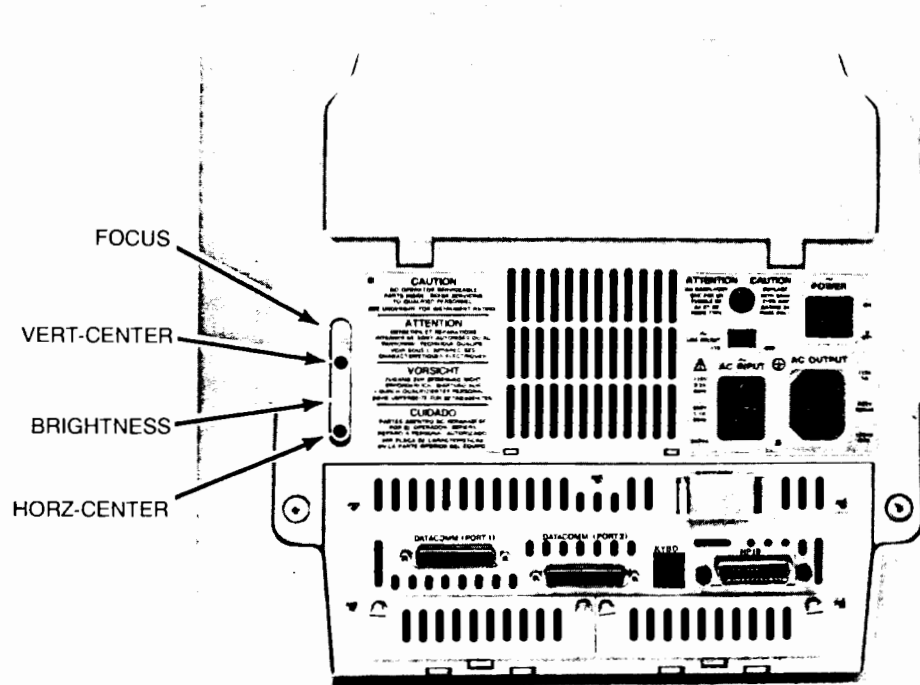

Figure 5-1. HP 150 Rear View
3. Using the Focus adjustment, located at the rear of the HP 150 (see Figure 5-1), adjust the focus of the display.
4. Using the BRIGHT adjustment, located at the rear of the HP 150 (see Figure 5-1), adjust the display to desired brightness.